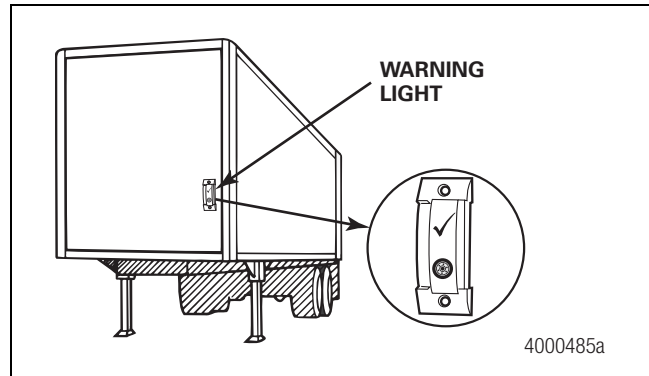

Figure 4.2
4. Check the warning light by opening the drain petcock at the control box. The light will come ON to indicate that it's operating correctly. Figure 4.2.